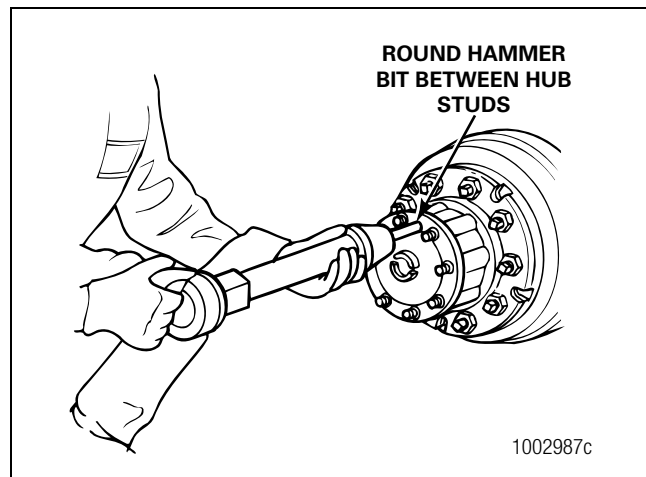

Figure 3.3
3. Place the round hammer bit against the axle shaft or flange between the hub studs. Operate the air hammer at alternate locations between the studs to loosen the tapered dowels and axle shaft from the hub. Figure 3.3.